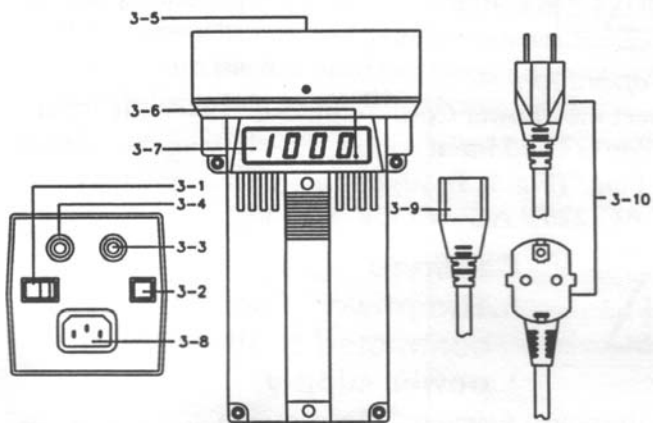

Fig. 1
- a. Connect the " Power Cord Connector " (3-9, Fig. 1) to the " Power Cord Input Socket " (3-8). Plug the " Power Cord Plug " (Fig. 1, 3-10) into a properly grounded 110V AC, 220V AC or 240V AC outlet.
- b. When checking the speed, care must be taken to ensure that the strobe is flashing in unison (one to one) with the object being monitored. Turn the " Fine Adjust Knob " (3-3, Fig. 1) or " Coarse Adjust Knob " (3-4, Fig. 1) until the mark look like " Stop " ( synchronize ).